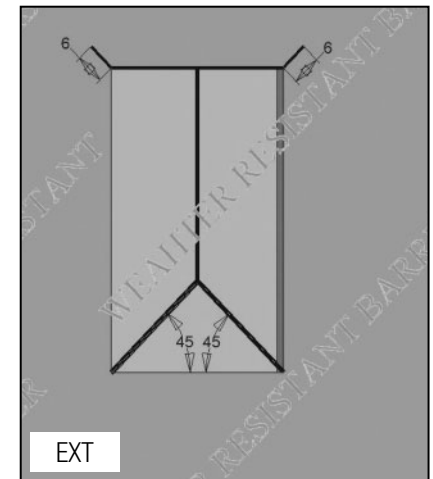

FIG. 5
- E) Cut the weather-resistant barrier (WRB) in a "Modified I" pattern shown below. (Fig. 5)